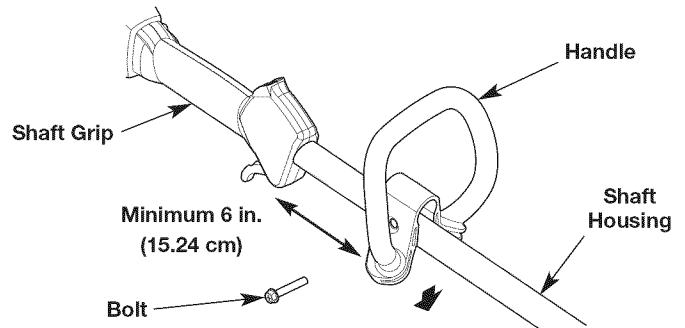

Fig. 2
1. Push the handle down onto the shaft housing (Fig. 2). The bolt hole in the handle should be to the right.
2. Insert the bolt into the bolt hole and push it through (Fig. 2). Tighten the bolt with a 3/8" socket, but do not tighten the bolt completely.
3. While holding the unit in the operating position (Fig. 6), move the handle to the location that provides the best grip. Place it a minimum of 6 inches (15.24 cm) from the end of the shaft grip (Fig. 2).
1. Loosen the bolt with a 3/8" socket (Fig. 2).
2. While holding the unit in the operating position (Fig. 6), move the handle to the location that provides the best grip. Place it a minimum of 6 inches (15.24 cm) from the end of the shaft grip (Fig. 2).